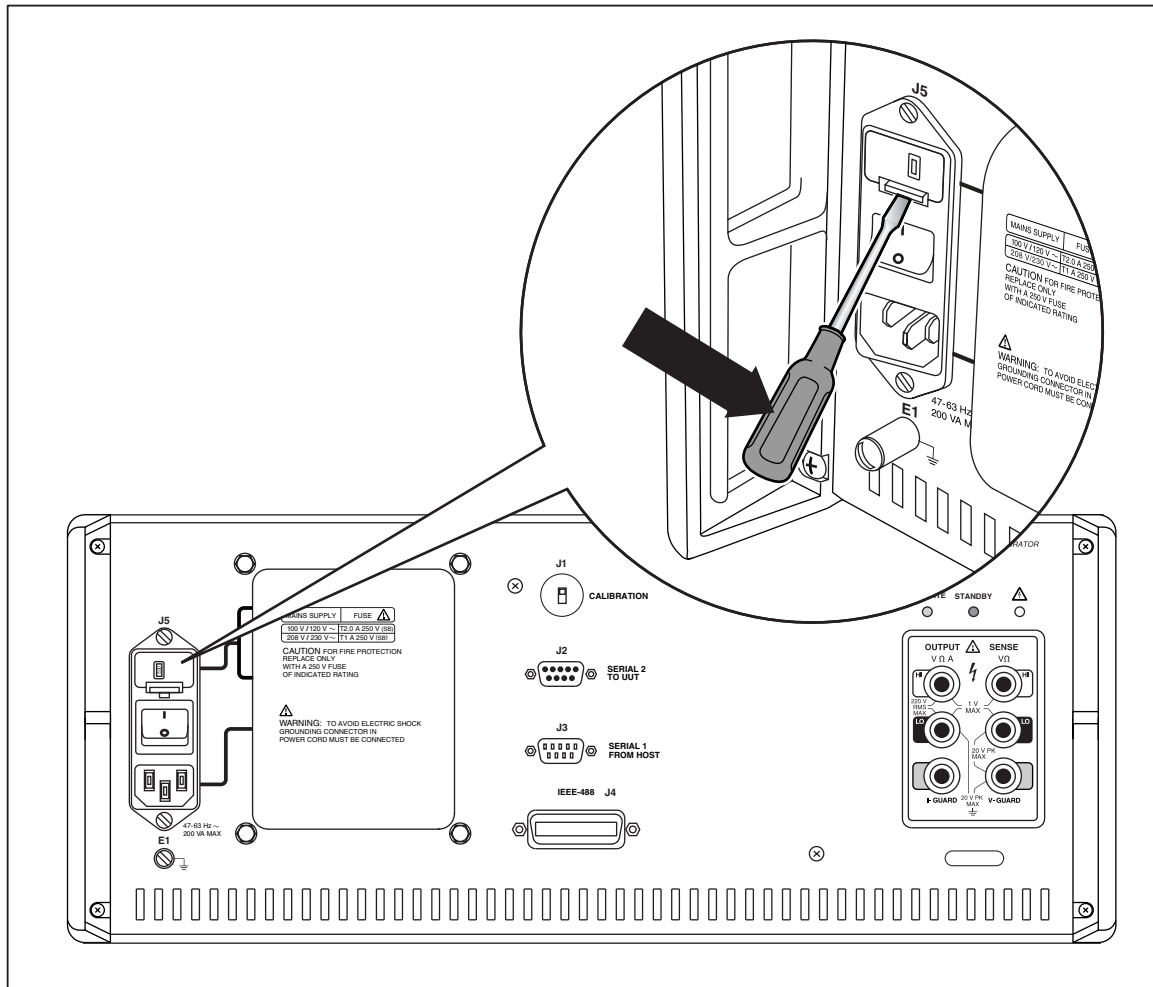

Figure 4-1. Replacing the Fuse
2. Insert a small screwdriver in the fuse holder release slot and push upward until the fuse compartment pops free. See Figure 4-1.